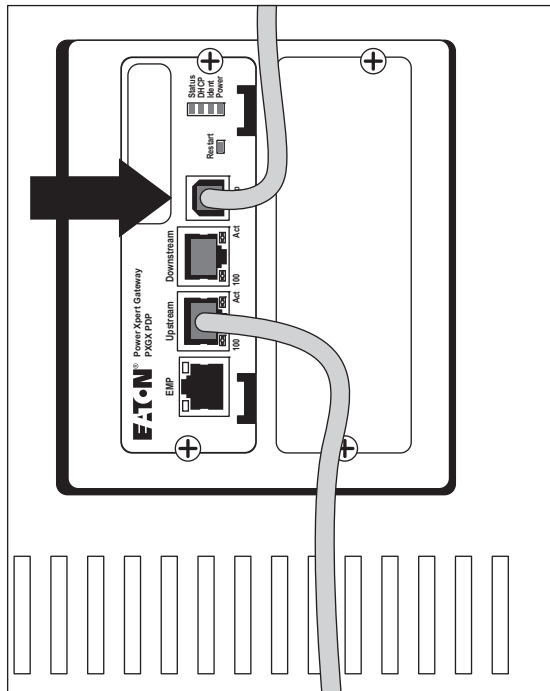

**Figure 3. Secure the Card and Install the Ethernet Cable**
- Slide the card into the open slot and secure with the screws removed in Step 2 (see Figure 2 and Figure 3).
6. Connect an active Ethernet cable (not supplied) to the Upstream Ethernet connector on the PXGX PDP Card (see Figure 3).